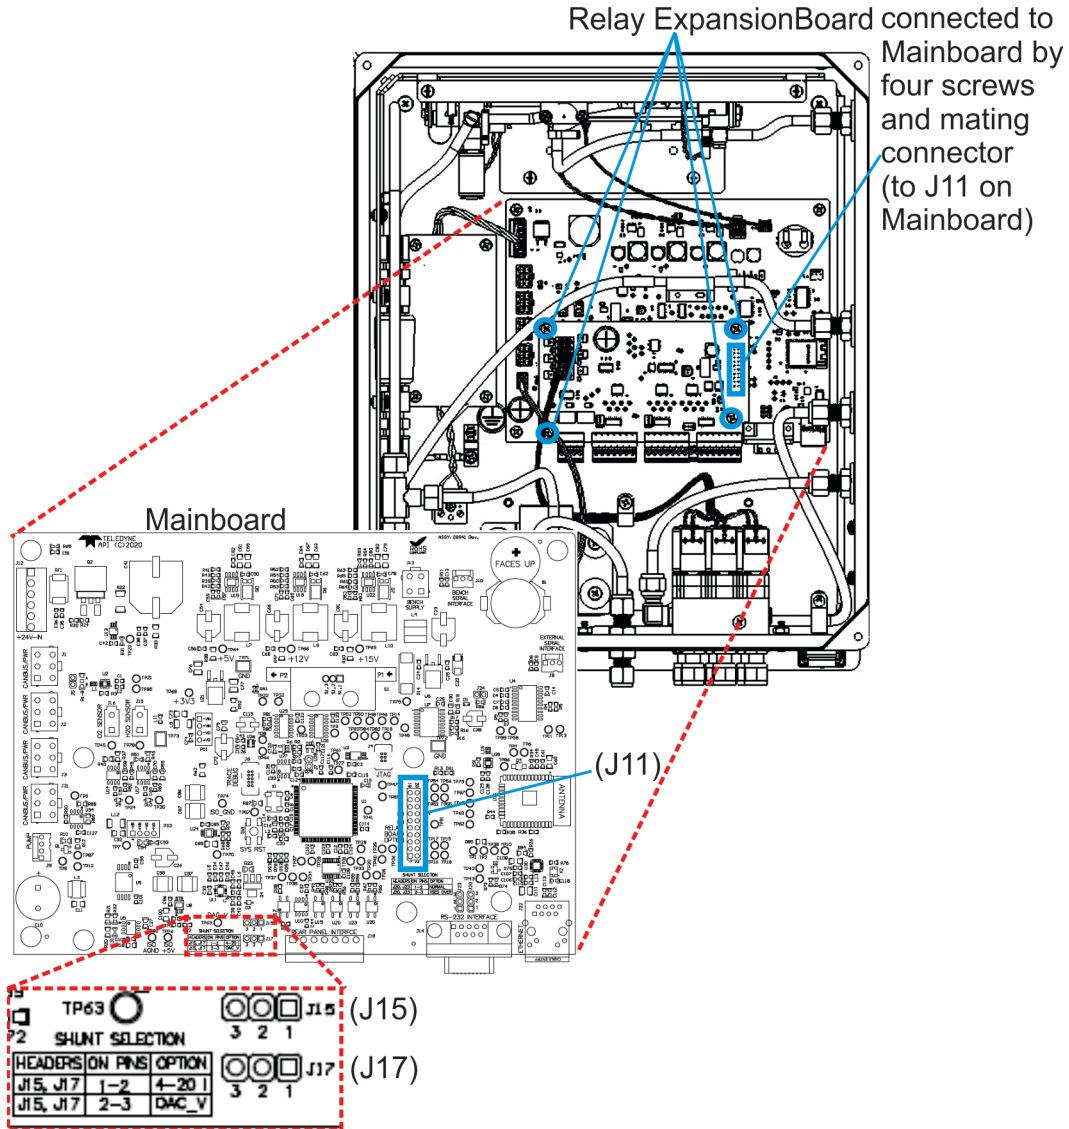

Figure 3-5. Mainboard – Analog Output Configuration
To change or verify the configuration of the analog output, refer to Figure 3-5 while performing the following instructions:
3. Locate J15 and J17 connectors on the Mainboard PCA (remove Relay Expansion board if installed as indicated in Figure 3-5).
4. Set the desired output as shown in Figure 3-5 where: